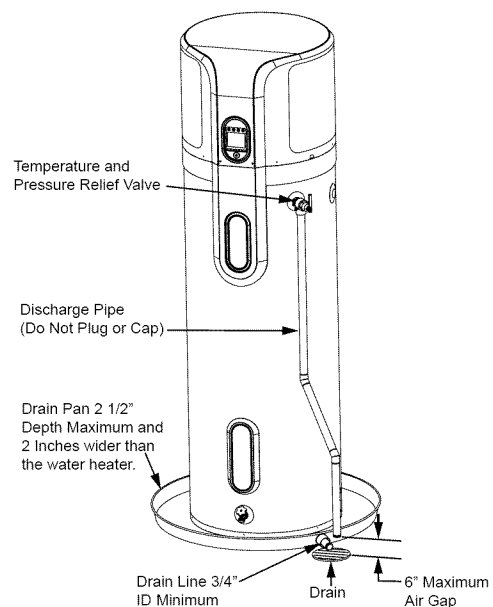

FIGURE 12.
7. Install a discharge line from the temperature and pressure relief valve in the opening marked "T & P RELIEF VALVE". See Figure 12 and the "Temperature and Pressure Relief Valve" section.)